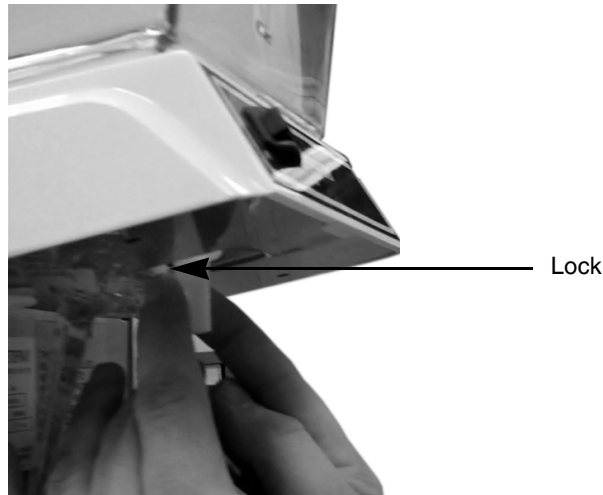

Figure 4.
- C. Squeeze clips until they are free from the panel, then pull straight down on the handle as shown in Figure 4, until it is free from the panel.
4. Remove the pinch tube by pushing the handle until it stops and pulling up on the pinch tube until it is free (See Figure 2.), then remove the handle (See Figure 4.). Lift off the bowl, drip trays and covers. Clean bowl, drip tray, and covers in warm water (75°-95°F) and a mild nonabrasive detergent. Rinse parts thoroughly.